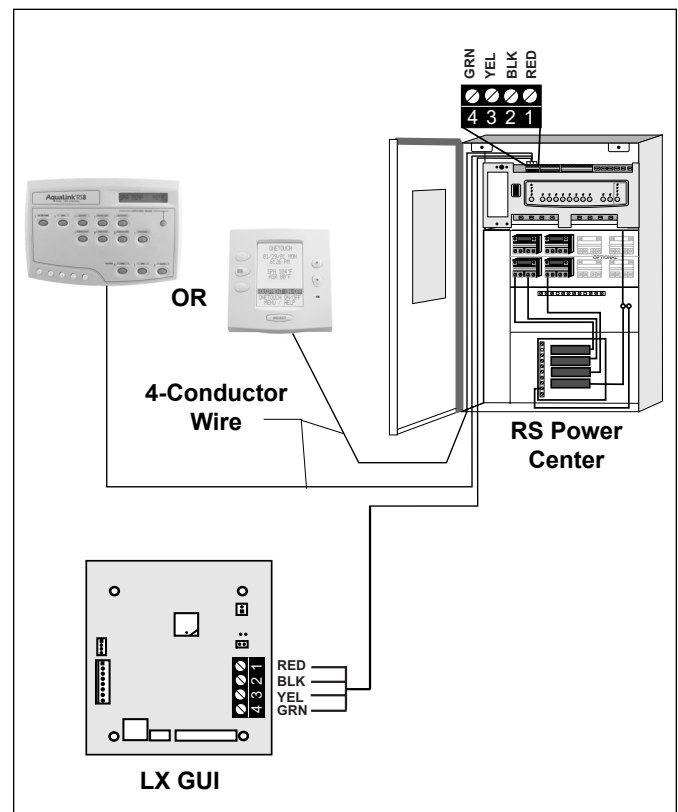

Figure 10. Laars LX Heater Connection to Power Center
3. Run a 4-conductor cable from the LX GUI red, 4-pin connector to the RS power Center red, 4-pin connector (see Figure 10).